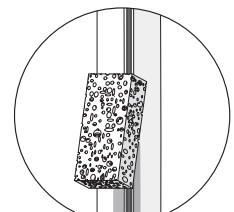

Fig. 18
- 7.6 Clean excess with a damp sponge. **(Fig. 18)**